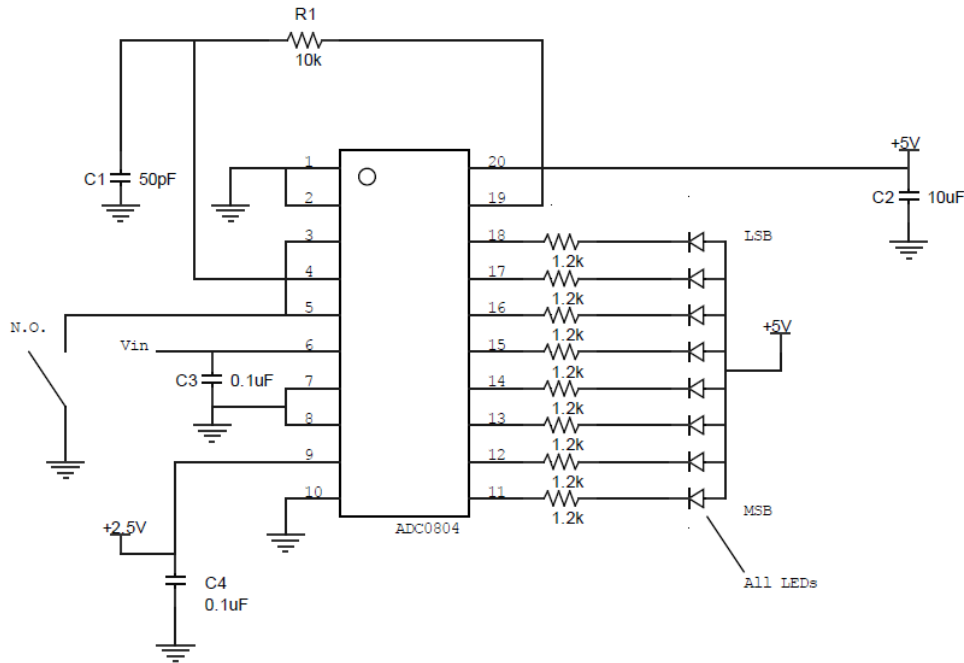

Figure 10-1 ADC0804 Connections
2. Connect the circuit shown in Figure 10-1.